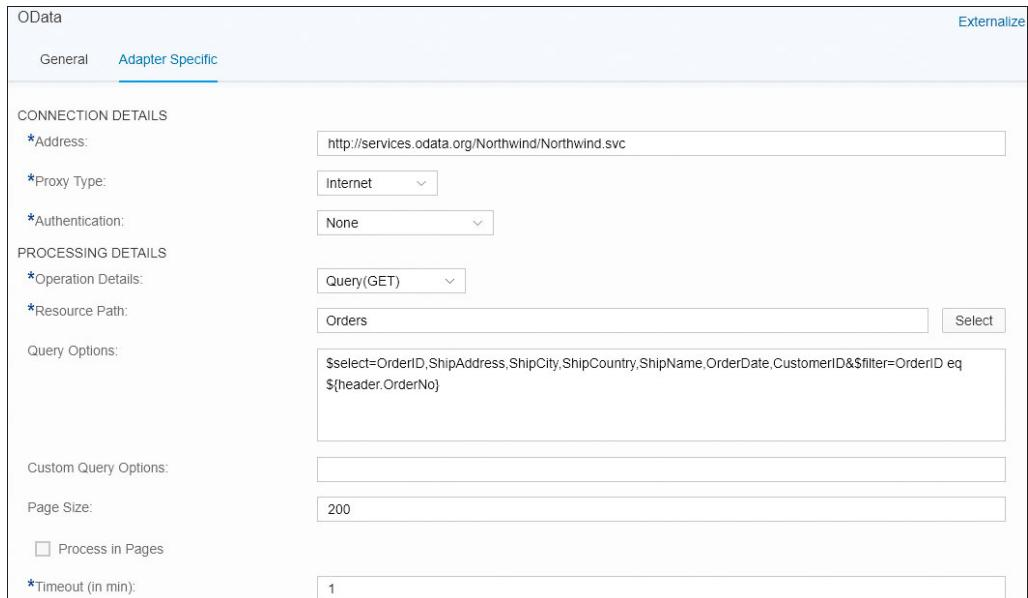

Figure 6.12 OData Adapter Configuration (Example)
Let's assume you've already configured the integration flow as shown in Chapter 4, Section 4.3. For your convenience, we again show the attributes of the OData adapter in Figure 6.12.
- You can, of course, configure the OData adapter differently than explained in Chapter 4, Section 4.3. However, make sure that you also specify the field `Ship-Country` (to be retrieved during the OData request), as shown in Figure 6.12.
Note that the mail adapter isn't the only part of the integration flow where a value is dynamically retrieved at runtime. As already mentioned, the OData adapter uses the expression \${header.OrderNo} in the filter condition (refer to Figure 6.12), which has the effect that the OData request retrieves the order for exactly that order number value provided in the incoming message. Strictly speaking, the integration flow developed in this section contains two dynamically configured attributes.